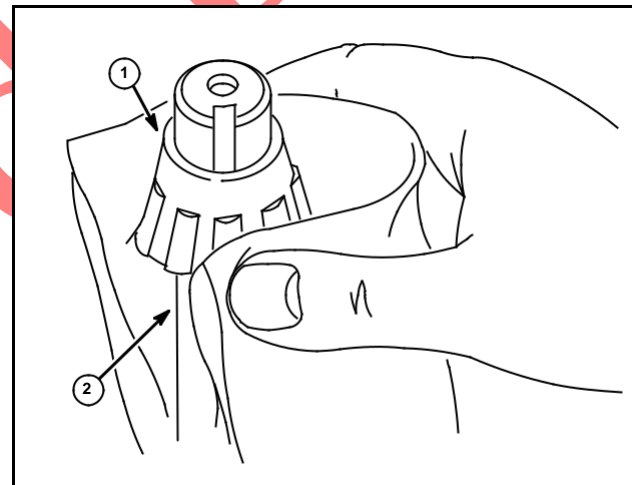

Fig. 42
2. Place drive shaft (2) and gear assembly in soft jawed vise with bearing side up. When bearing is hot it will become a slip fit on the drive shaft journal.
3. Grasp bearing and thrust it down on the drive shaft against flange of gear, Fig. 42.